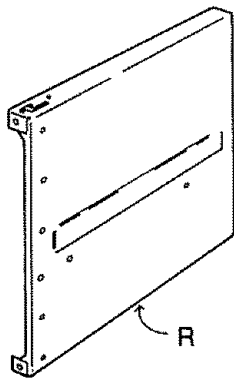

Fig. 17
8. Find the *right* and *left side panels*. Look carefully to find the "R" and "L" stamped in the metal near the center of the wide edge. These stamps are the easiest way to tell the *right side panel* from the *left*. (Figure 17)